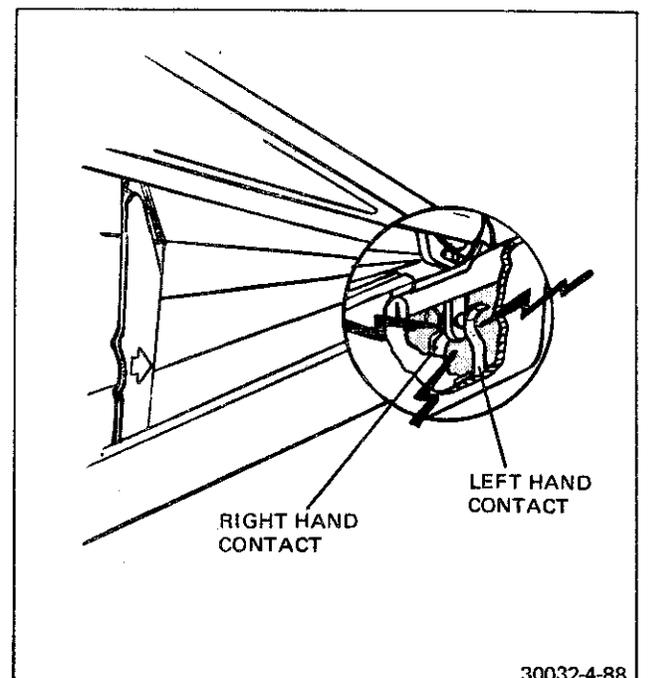

FIGURE 4-88 SWITCH S6 DETAILS
- b. Unsolder and disconnect the two S6 contacts (Figure 4-88).